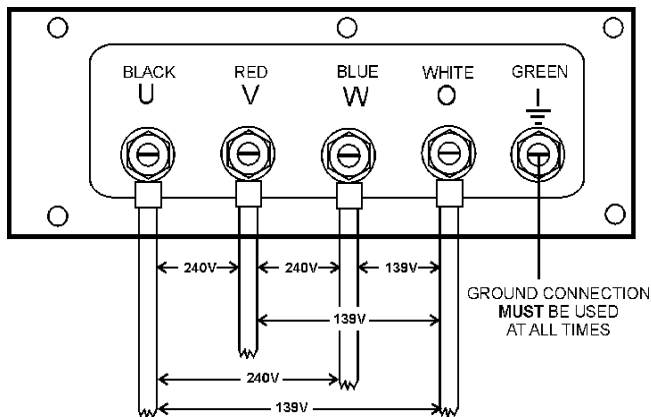

Figure 20. UVWO Terminal Lugs 240/139V Three Phase Connections
2. Connect the load wires to the UVWO terminals as shown in Figure 20.